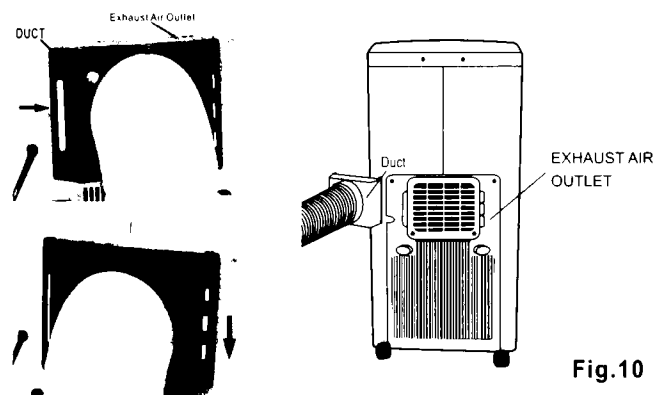

Fig.10
1) Install the **Flexible Exhaust Hose** *Fig. 10* and the **Adjustable Window Slider Kit** as depicted in *Fig. 2, 2a (pg. 5)*.